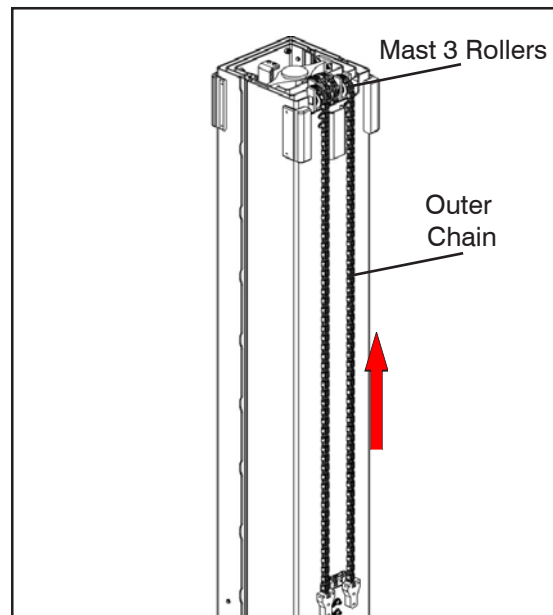

Figure 5-11. Positioning of Outer Chains on Mast 3
- Un-roll the two outer chain off the mast 3 rollers and place them inside mast 1. See Figure 5-11.